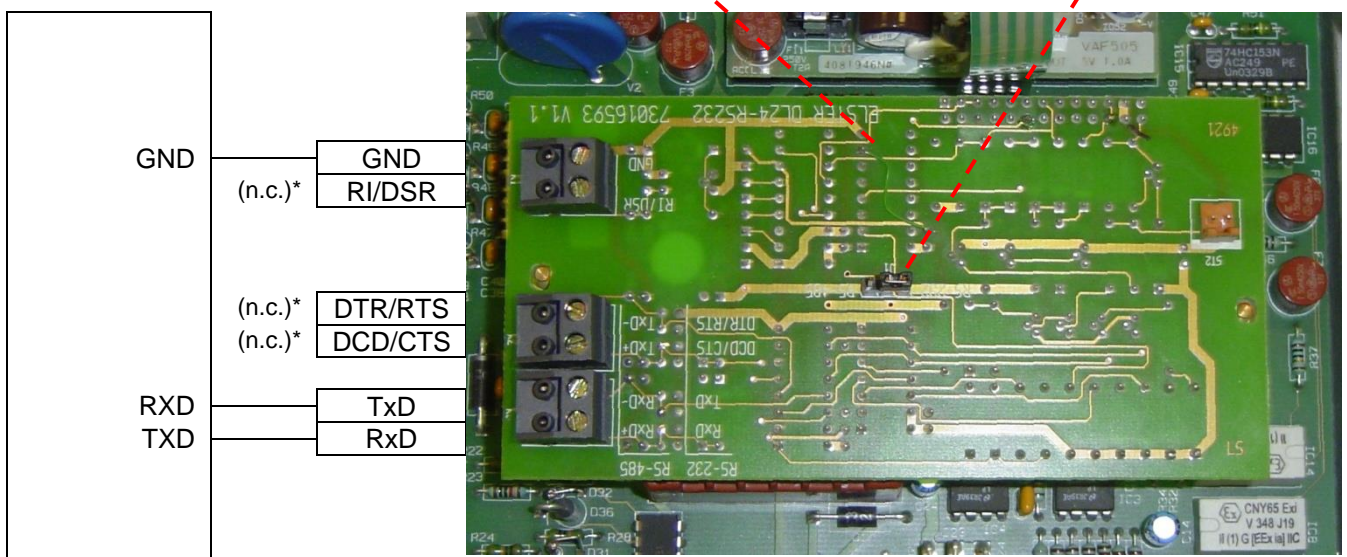

Fig. 23: RS232-Adapter in the FE260
- Place jumper J1 into the "RS232" position. (⇒ Fig. 23)